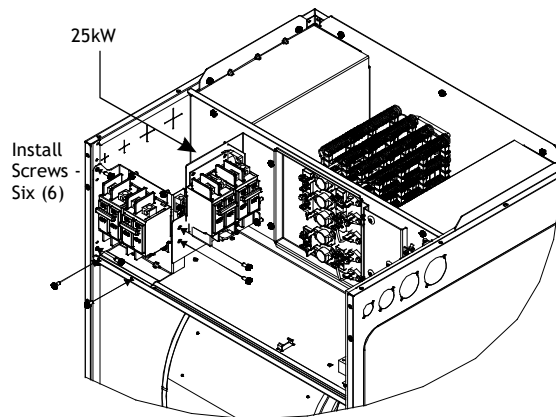

FIGURE 4
*For 25kW applications, see Figure 4 for installation.*